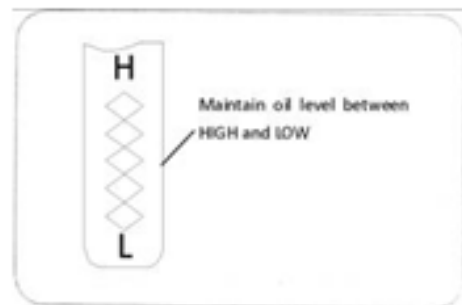

Fig. 29
4. Unscrew the oil plug with the dipstick and read the oil level on the dipstick. If the oil level is below the "L" (LOW) mark, slowly add oil to reach the "H" (HIGH) mark, see figure 29.